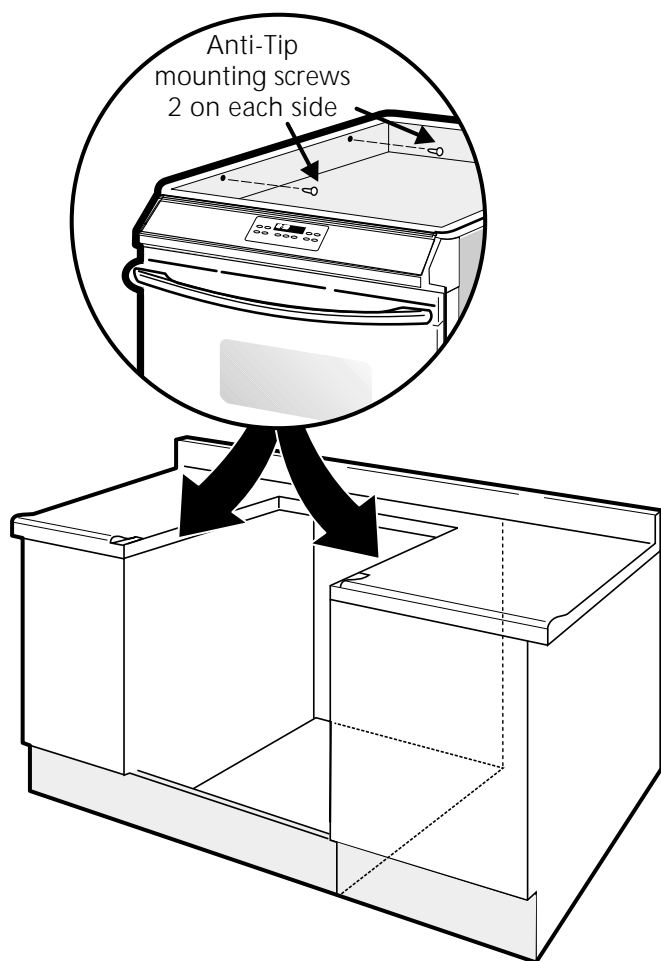

Figure 4
7. Ranges with a lift-up cooktop have 4 anti-tip screws included in the literature pack (see Figure 4). Lift the countertop and secure range burner box to cabinet with these screws to prevent range from tipping.